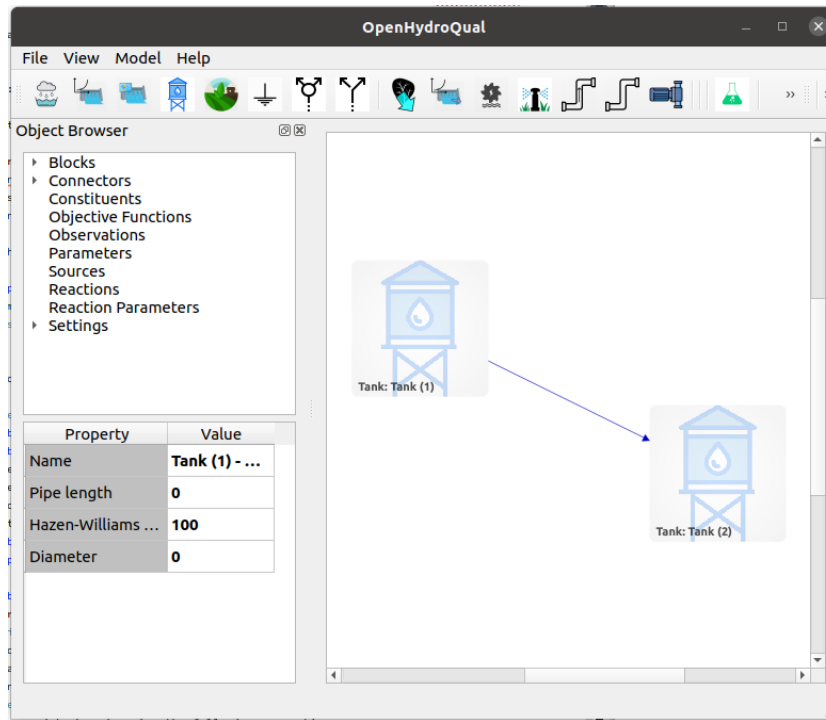

Figure 2: Screenshot for the simple pipe system example
4. **Assigning properties to the tanks:** Select *Tank (1)* and assign the following properties through the property window:
5. **Connecting the two tanks via a pipe:** Click on the *Pipe, Hazen-Williams Equation, 2Way* button  from the component toolbar and then drag from *Tank (1)* to *Tank (2)*. Your GUI should look like Figure 2. Please note that a "2-way" pipe allows the water to move in both direction depending on the hydraulic gradient while a "1-way" pipe allows the water to only flow from a source to a destination.